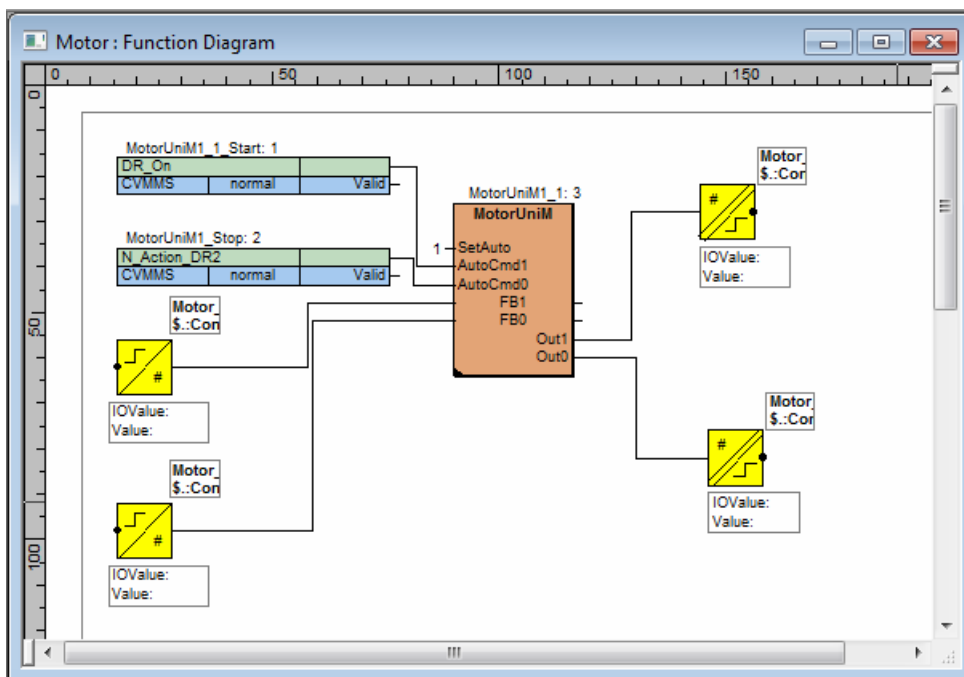

Figure 46. Complete Configuration of MotorUniM Function Block
21. Repeat Step 16 to Step 19 to configure **AutoCmd1** port as in Figure 46.